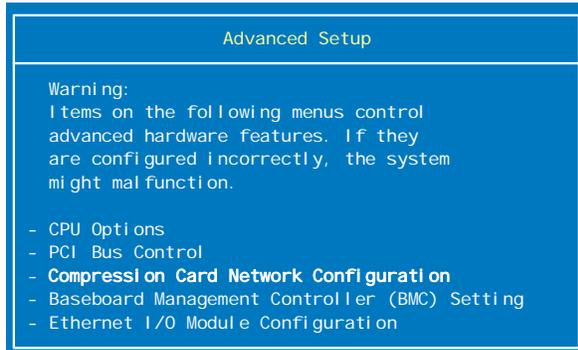

Figure 6-2 Advanced setup menu in the HC10s BIOS
2. Select **Compression Card Network Configuration** and press Enter (Figure 6-2).